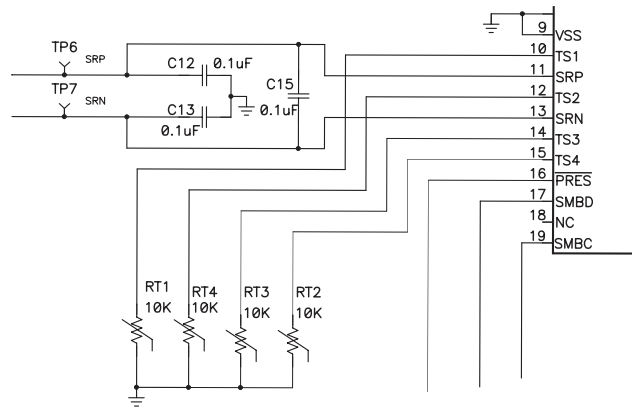

Figure 19. Thermistor Drive
For the bq3050 device, TS1 and TS2 provide thermistor drive-under program control (Figure 19). Each pin can be enabled with an integrated 18-k Ω (typical) linearization pullup resistor to support the use of a 10-k Ω at 25°C (103) NTC external thermistor, such as a Mitsubishi BN35-3H103. The reference design includes two 10-k Ω thermistors: RT1 and RT2.